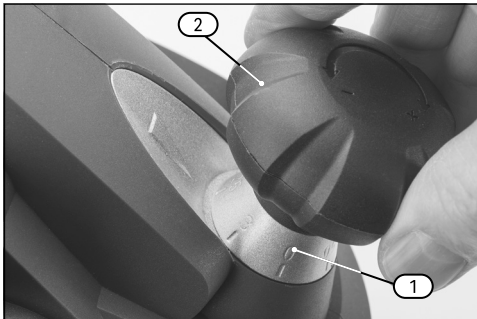

Fig. 2
6.2 Cutting Depth Adjustment (Fig.2)
- Use the cutting depth adjustment knob (2) to gradually change the cutting depth (0 – 3mm) as shown on the cutting depth scale (1).